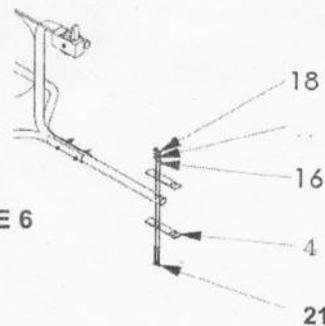

FIGURE 6
Attach steering link connector (4) to front bracket (9) using screw M6x40 (21), small flat washer (16) and hex nut (18). (Fig. 6)